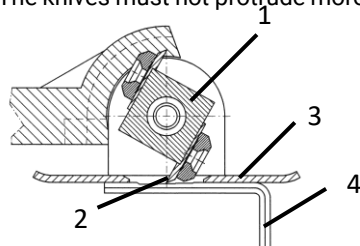

Fig. 9: Knife adjustment
- > Replace the knife (2 – Fig.9) if necessary.
- > Turn the cylinder (1 – Fig.9) so that the knife protrudes at maximum through the guide plate (3 – Fig.9).
- > Place the Allen wrench (4 – Fig.9) on the guide plate so that the notch with the desired cutting depth is under the knife.